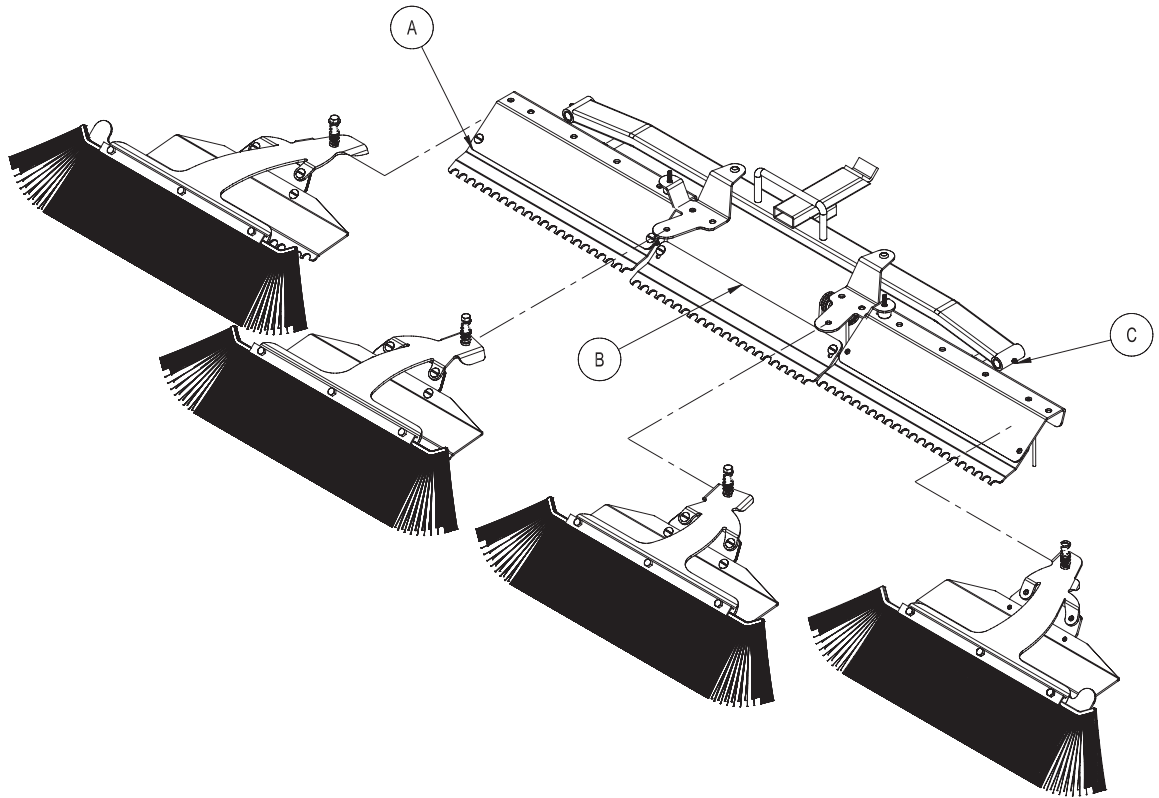

Fig. 1
1. Before assembly please note the two Brush/Finish Blade Assemblies (Refs A & C in Fig.1) that are 1. Before assembly please note the two Brush/Finish Blade Assemblies (Refs A & C in Fig.1) that are mounted on the outside (RH & LH) have flat washers that are between the Brush Arms (Refs 2 & 21) and the Brush Arm Mount (Ref 6).
2. Also please note the placement of the Brush/Finish Blade Assemblies as illustrated in Fig 1. They must be mounted as illustrated to work as intended.
3. Begin assembling your **ProBrush TOURNAMENT RAKE** by inserting the Outside and Center Groomer Blade Assemblies (Refs A, B & C in Fig.1) in their locations as illustrated. Secure the Outside Assemblies with the $\frac{1}{4}$ " Pin (Ref 11) and the Center Assembly with the $\frac{1}{4}$ " x $1\frac{3}{4}$ " Hex Bolt and Nylon Lock Nut (Ref 31).